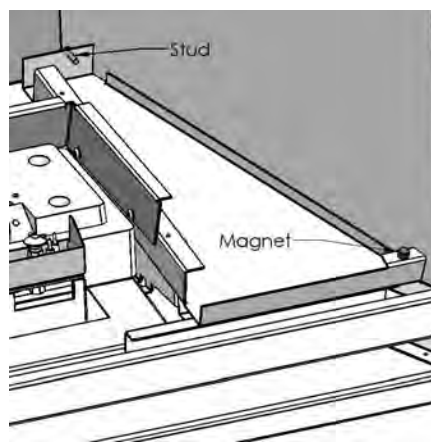
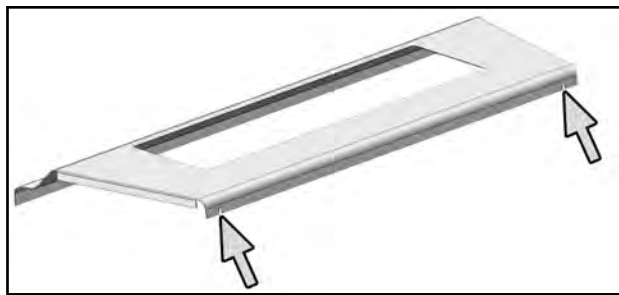

Figure 86: Permanent Magnet on Right Burner Cover Support.
Figure 87: Slots in Back of Burner Cover.
10. Install the Glass Burner Cover Support Kit to the Right Burner Support using three (3) T-20 Torx screws supplied. Install the Support Kit to the Left Burner Cover Support as you've done on the right side.
11. Place one of the Permanent Magnets provided on the front edge of the Burner Cover Supports as shown in Figure 86.
12. The Burner Cover has two (2) slots, one the either side of the rear flange (refer to Figure 87). These slots fit over the two (2) studs in the burner cover support (refer to Figure 86) to keep it in place.